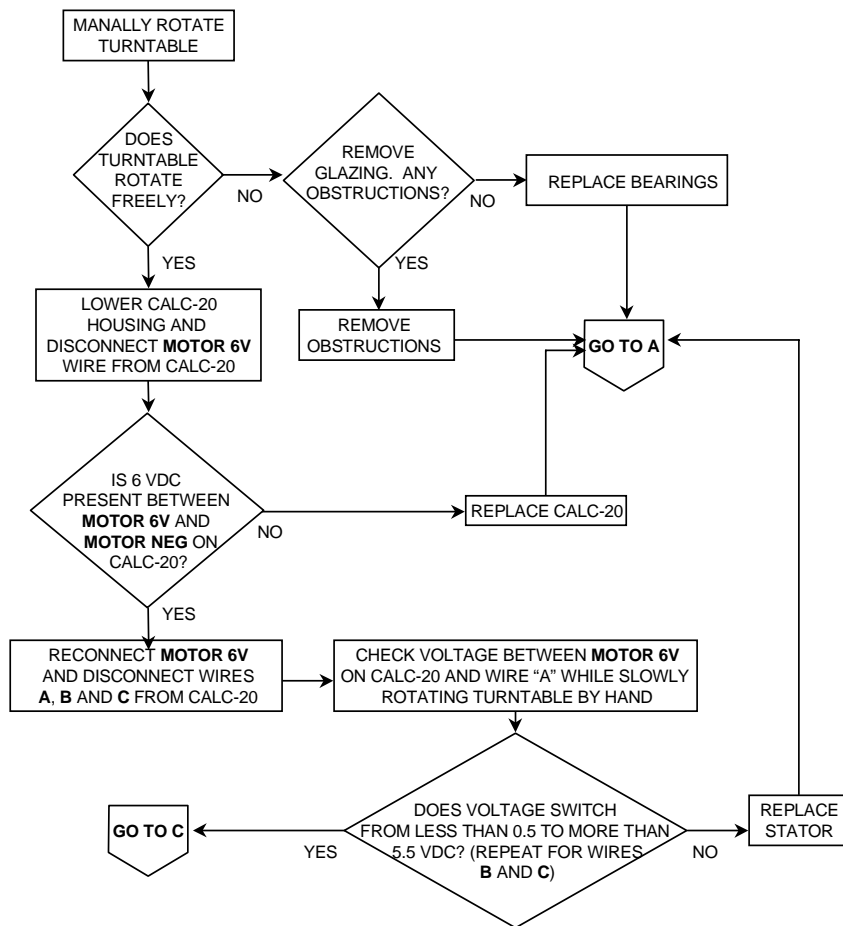

**Figure 3-46**
- b. If the problem is improper, or no rotation, use flowchart A as a starting point for troubleshooting. Figure 3-46 will help you identify the components of a VRB-25. Section 7 contains procedures that detail how to test or replace a component in the beacon.